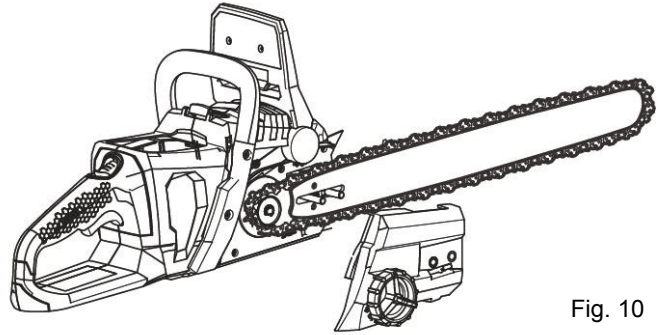

Fig. 10
- Replace the sprocket cover ensuring that the adjusting pin in the chain cover is in the bar chain tensioning pin hole and that both bar studs are securely in their respective holes in the sprocket cover. (Fig. 10)